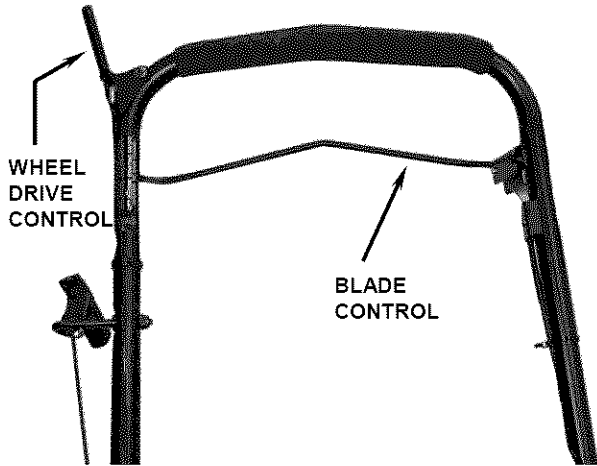

FIGURE 2.1
2.1.2. Check blade control and wheel drive control to insure they work freely. See Figure 2.1.
2. Pull blade control against handle. See Figure 2.1.
3. Move wheel drive control against handle to engage wheel drive and propel mower forward. See Figure 2.1.